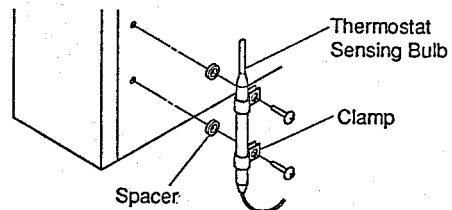

Figure 3 - Attaching Thermostat Sensing Bulb
2. Place clamps on thermostat sensing bulb as shown in Figure 3. Clamps are provided in hardware package. Thermostat sensing bulb must be located on outside edge of heater.